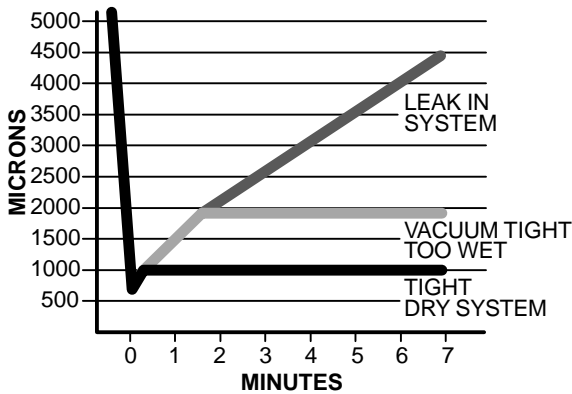

**Fig. 17 – Manifold**
3. Fully open the low side of manifold gage (see Fig. 17).